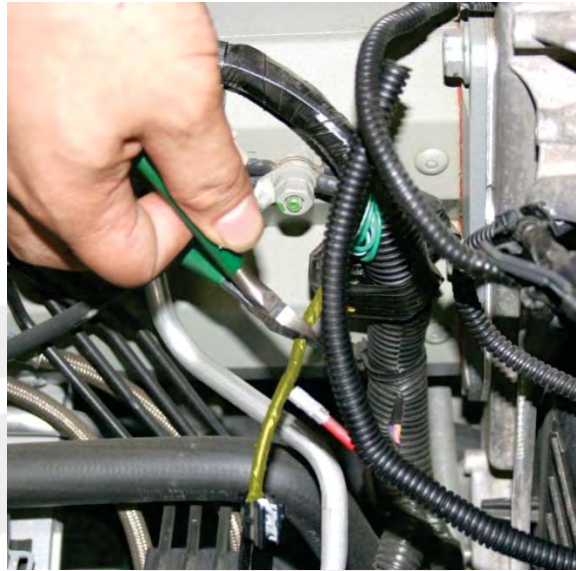

Figure 8 (Old 12V jump post harness highlighted in yellow)
10. Cut the old 12V jump post wire approximately 70 mm from where it connects to the main body harness (Figure 8). Discard the old 12V jump post wire.